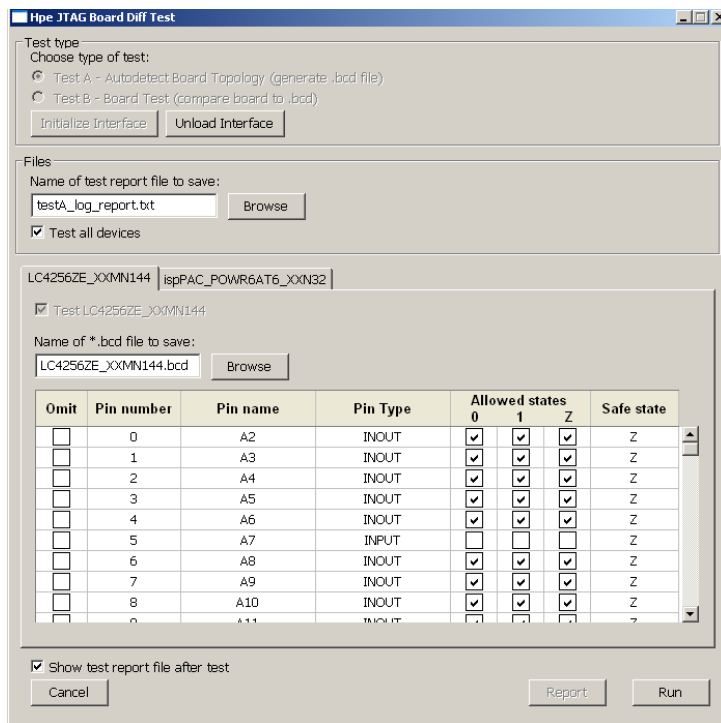

Fig. 1: The Board Diff GUI
- is an intuitive and highly user friendly GUI (see Fig. 1)